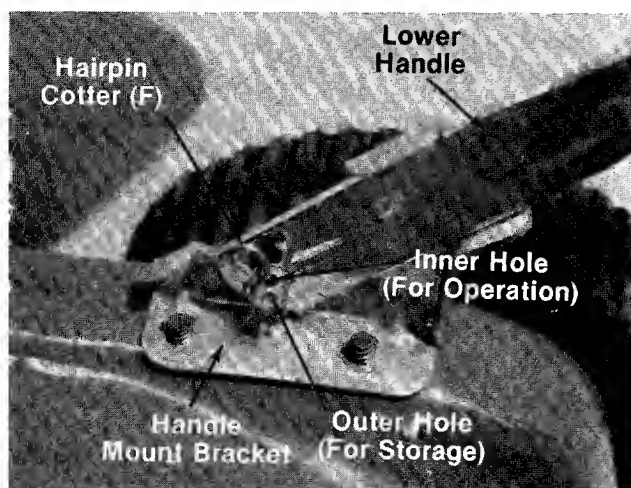

FIGURE 2.
- A (2) Hand Knobs
- B (2) Curved Carriage Bolts 5/16-18 x 1.75" Long
- ← C (2) Cable Ties
- D (1) Hex Bolt 1/4-20 x 1.50" Long
- E (1) Hex Center Lock Nut 1/4-20 Thd.
- F (2) Hairpin Cotters
- G (2) Ignition Keys (296 only) (Not Shown)
- H (1) Battery Charger (296 only) (Not Shown)
3. Place lower handle in position over weld pins in handle mount brackets on deck. Secure by placing two hairpin cotters (F) in inner hole on weld pins. See figure 2.